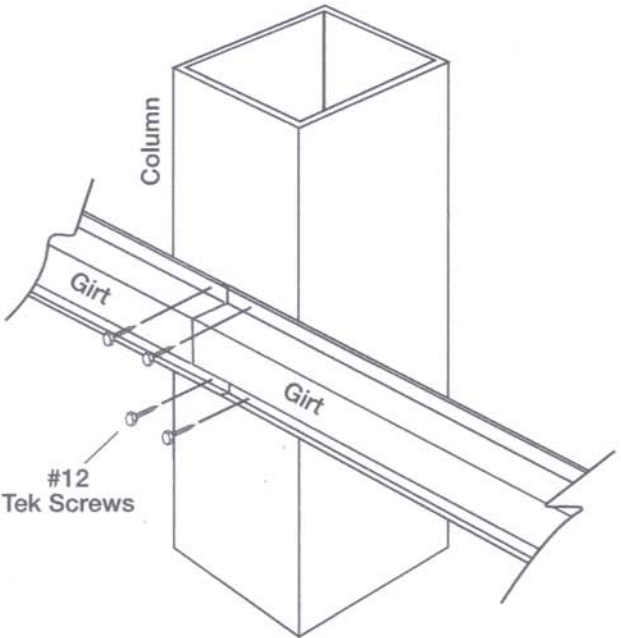

Figure 9
The hat-shaped Girt members should be installed from the eave (top) location downward. The Girt members abut against each other. See Figure 9.
Each Girt should be fastened to each Column with two (2) #12 Tek Screws. See Figure 9 for locations of fasteners.
On the 2", 3", and 4" rafter/eave tubes have the Purlins and Girts abut against each other. See Figure 9. Again, each Purlin is fastened to each rafter with two (2) #12 Tek Screws.